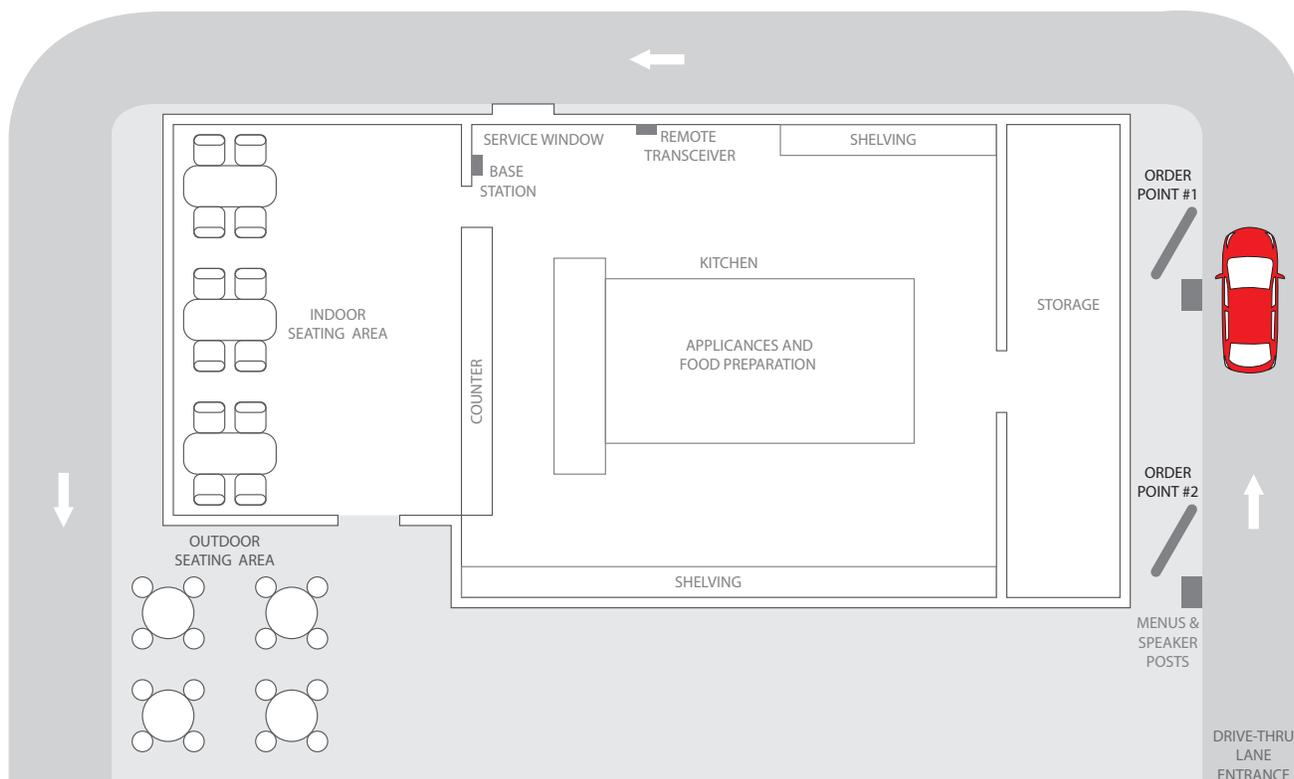

Fig. 4.3
**Pull Forward:** This message is only used for stores with a Tandem Lane configuration. It is enabled by default. In Tandem operation, customers at Order Point #1 are served by Order Taker #1 (e.g., red vehicle in Fig. 4.3) and customers at Order Point #2 are served by Order Taker #2.
ample, in Fig. 4.3. when the customer in the red vehicle first arrived at Order Point 2, there was no customer in front at Order Point #1 so the Pull Forward message played requesting the customer to pull forward to Order Point #1. This clears Order Point #2 to receive the next customer.
Tandem: a store with two order points but only utilizing a single lane (an order point in-line after the other). Also see Message Types: Pull Forward and Fig. 4.3 under “Messages” on page 22.